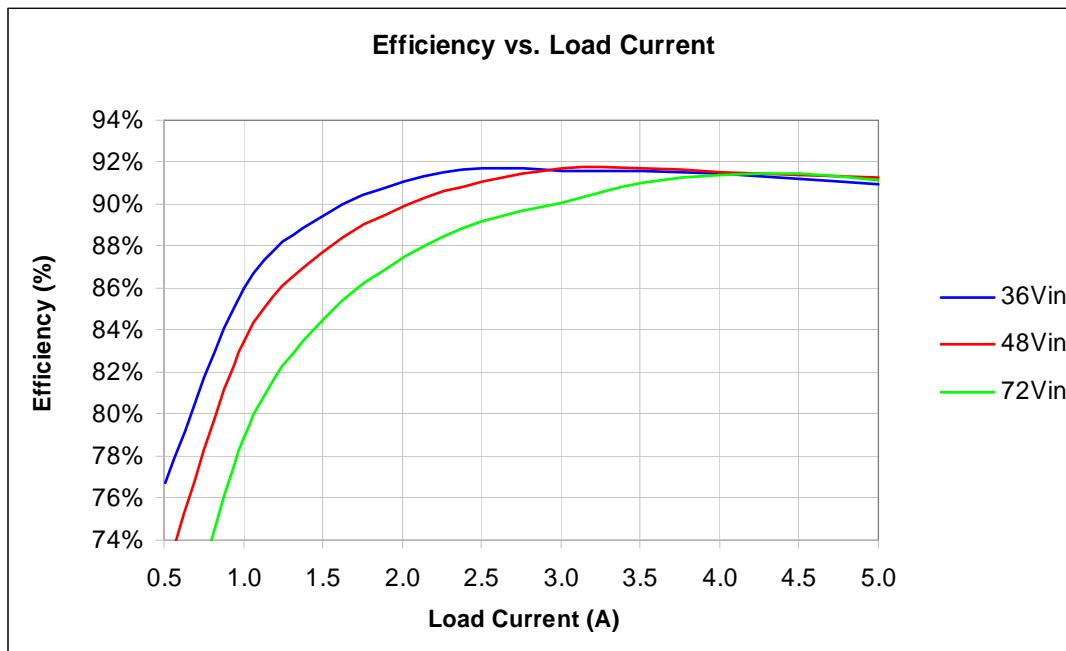
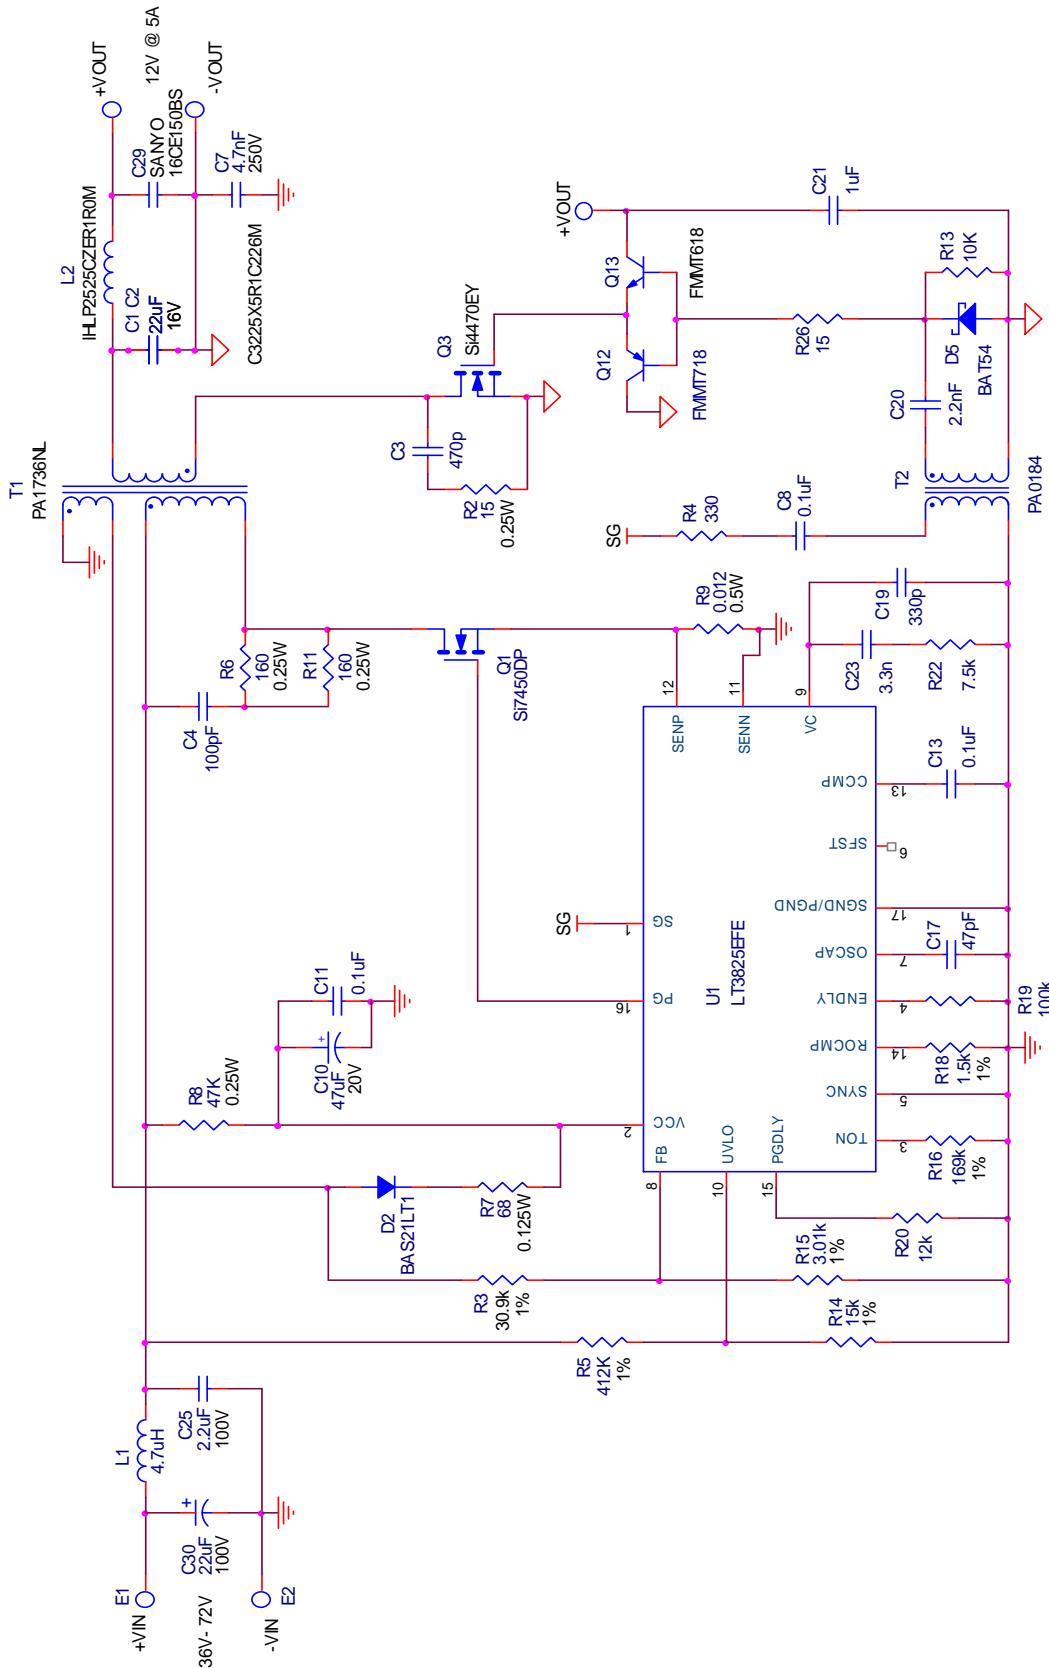

Figure 3. Efficiency
Figure 9. Simplified Schematic
The LT3825 controller exhibits a self-starting capability. When an input voltage is applied, a trickle charge resistor, R8, charges C10 (See Figure 9) to power V_{CC}. Then, the IC begins a controlled soft-start of the output voltage. As this voltage begins to rise, V_{CC} power is quickly taken over by T1, D2, and R7. When the soft-start period is over, the LT3825 then regulates output voltage by observing the pulses across the auxiliary winding of T1 during the flyback time. The Primary Gate drive (PG) and Synchronous Gate (SG) drive is then Pulse Width
Figures 3 through 8 are measured data for a typical DC894B-C. Figures 9 through 11 are schematics and bill of materials.